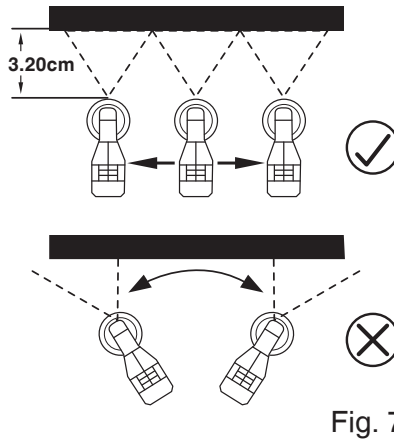

Fig. 7
- Be sure to hold the spray gun at an even distance of approx. 5 - 15 cm to the target object. (Fig. 7)
- Heavy spray fog build-up, uneven surface quality. (Fig. 7)